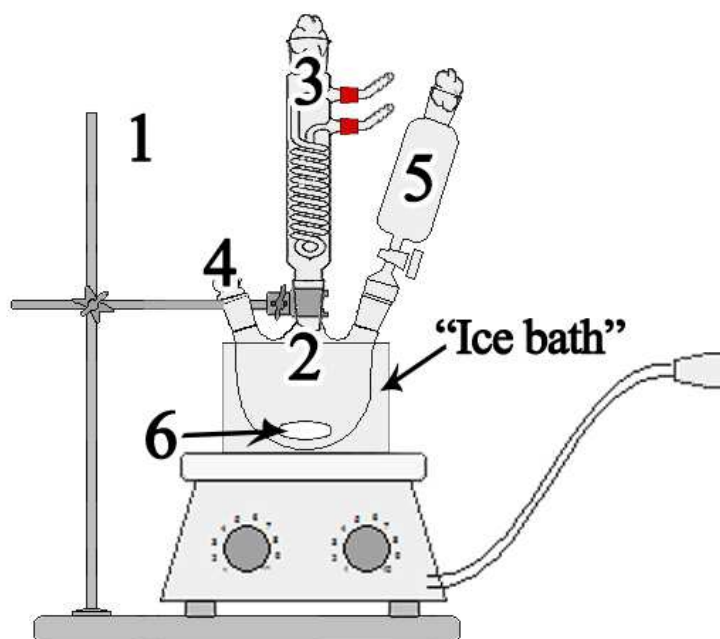

Fig. 1. Set up needed to implement Steps 1-4 of the synthesis. Refer to page 4-5 for the numbers
- *Apparatuses used in this task are shown in Fig. 1 and 2.*
Step 1. Clamp the three-necked flask on the laboratory stand on top of the hot-plate magnetic stirrer. (Fig.1). Apply the dropping funnel and the reflux condenser to the corresponding necks and put the big magnetic stir-bar into the flask through the open neck. Ask your lab assistant to switch on water supply in the reflux condenser (**Do not do it yourself!**). Transfer NBS quantitatively into the flask using spatula and big plastic funnel. Transfer ~15 mL of CCl_4 into the 25 mL glass beaker. Pour ~2/3 of the solvent volume from the beaker into the flask. Shake the Catalyst and quantitatively add it through the same plastic funnel into the flask. Add the rest of the solvent from the beaker to the flask. Close the open neck with the stopper. Put the flask into the ice bath filled with water and ice to ~ 2/3 of its volume. Start stirring the mixture.